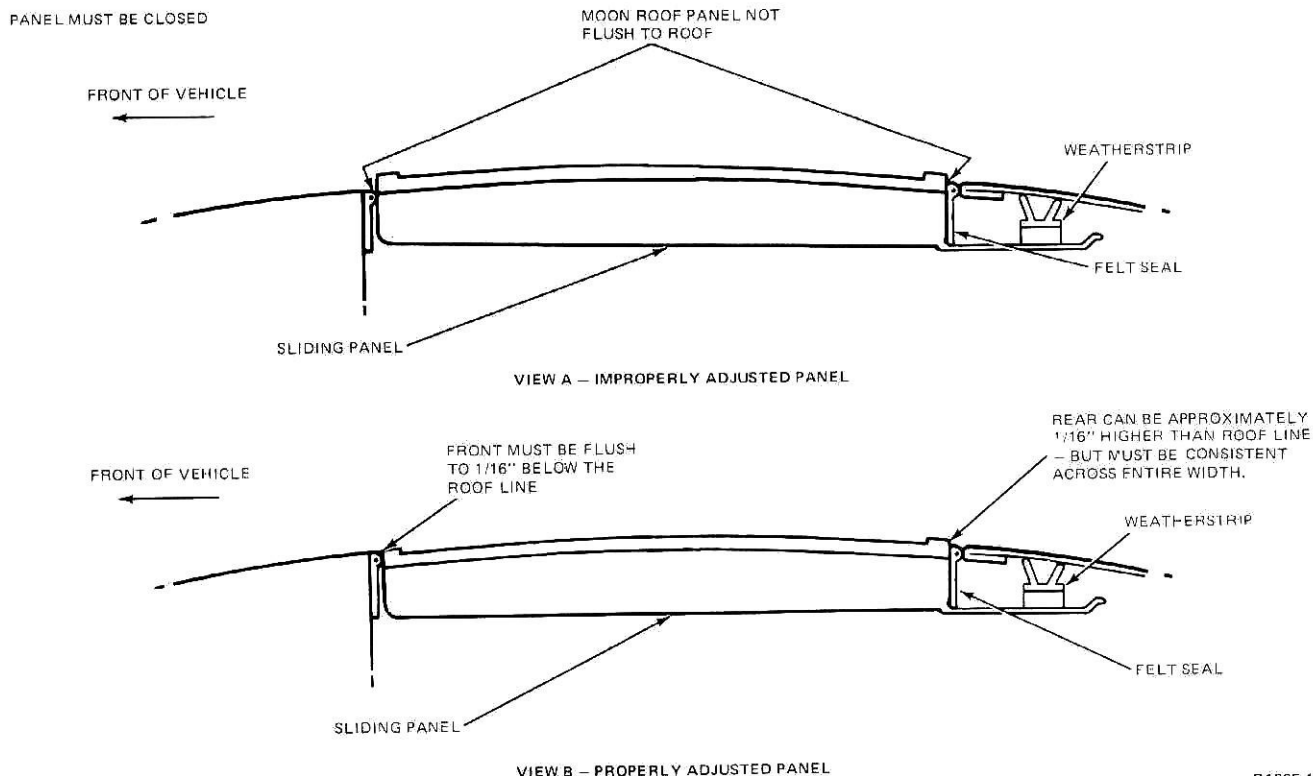

FIG. 15 Correct Sliding Panel Flushness Setting
To obtain a flush fit of the sliding panel to the roof panel, remove halo moulding to gain access to adjusters and refer to Fig. 15 for correct flushness specifications and the procedures outlined below:
1. To raise or lower the rear edge of the sliding panel on all vehicles except Lincoln Continental, Continental Mark V, Versailles, Thunderbird and Cougar, loosen the rear retainer pin attaching nut (Fig. 15). The pin assembly is located in the slotted lifter bracket (See Fig. 16, View A). Position the sliding panel up or down as required to obtain a flush fit to the adjacent roof panel. Re-torque pin retainer nut to 20-23 in.-lbs.